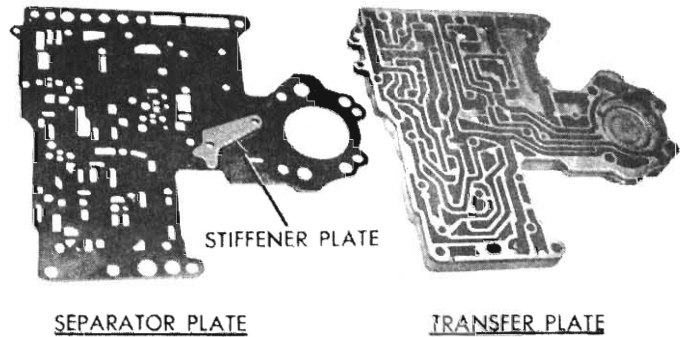

Fig. 54 - Transfer and separator plate (A-727 and A-904-LA)
(3) Lift off transfer plate and separator plate assembly. Remove (4) screws from stiffener and separator plate and separate parts for cleaning (Fig. 54).
(2) Place separator plate on the transfer plate (Fig. 54). Install stiffener plate and retaining screws exactly as shown. Make sure all bolt holes are aligned, then tighten two transfer plate screws and two stiffener plate screws to 28 lbs. in.
(3) Place transfer plate assembly on valve body. Be careful to align the spring loaded ball as the 17 shorter screws are installed (3 longer screws are for oil filter).
(4) Starting at the centre and working outward, tighten screws to 35 lbs. in.
(5) Install oil filter and tighten to 35 lbs. in.